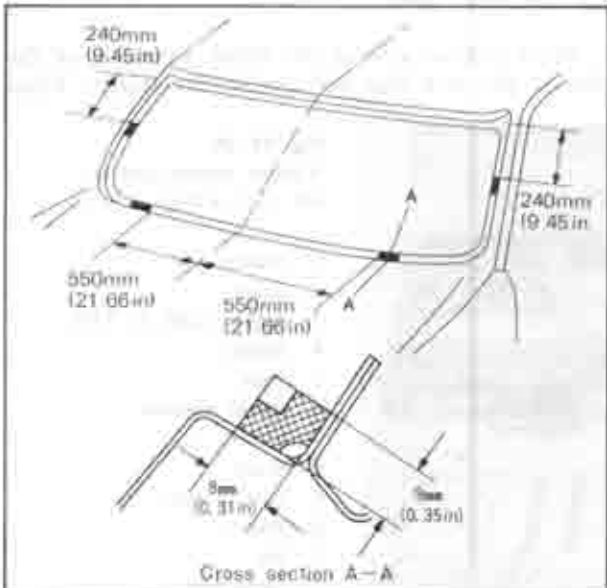

Fig. 14-28 Position spacers
4. Bond each spacer to the glass opening flange with bonding agent. Fig. 14-28 shows the directions and positions of each spacer. There are two kinds of spacer.
Although the spacer is bonded on both the right and the left hand sides of the windshield glass in Fig. 14-28, the spacer on only one side of the glass should be sufficient.